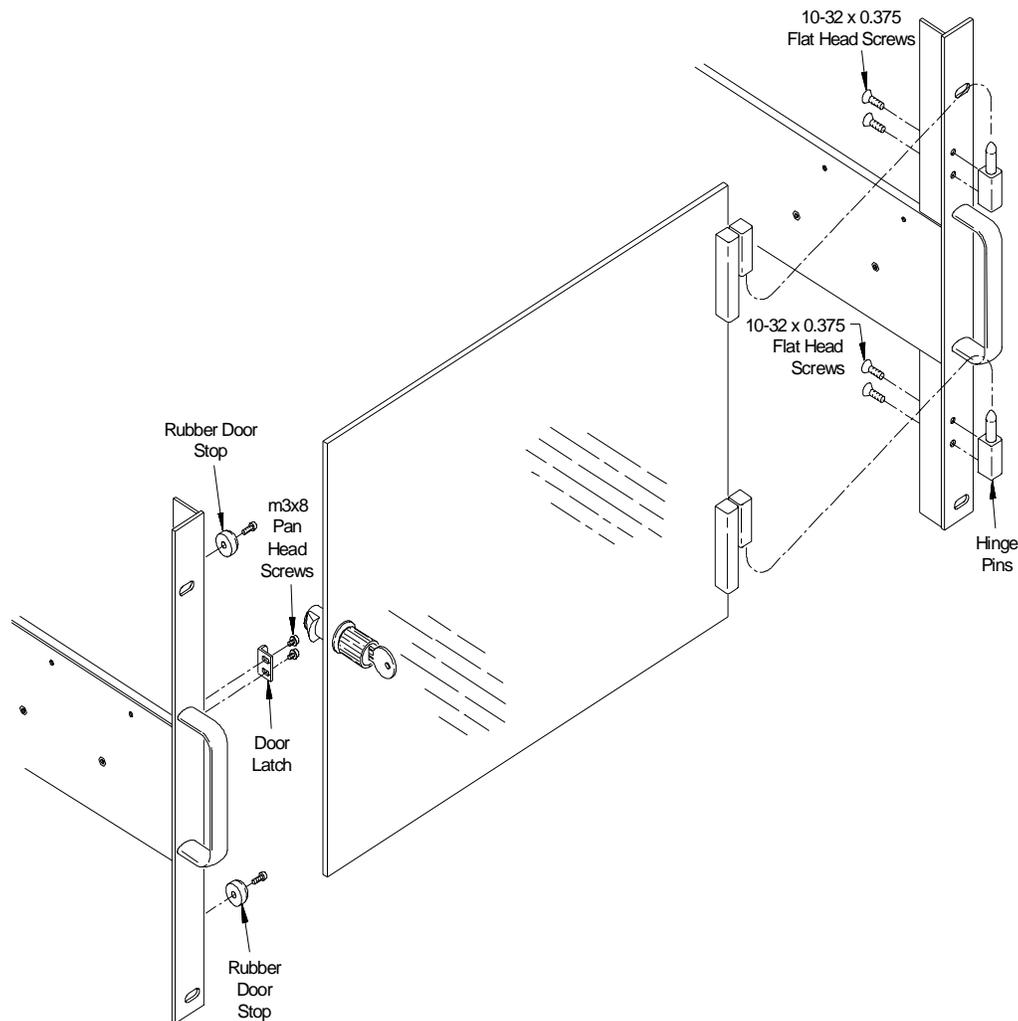

Figure 1 . Installing the Acrylic Door Hinges, Door Stops, and Latch Keeper.
3. Attach the hinge pins to the right rack mount adapter using four 10-32 x 0.375 flat head screws (Figure 1). Attach the rubber door stops and door latch to the left adapter using four m3x8 pan head screws as also shown in Figure 1.